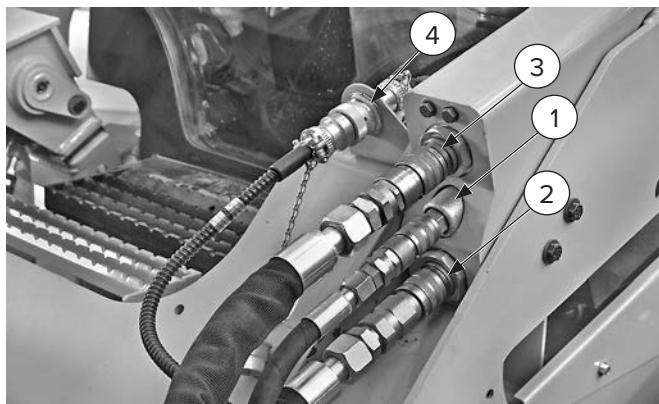

Figure 4
- Connect the hoses using the quick couplers (see "4.5 Connecting Quick Couplers" on page 17). It is essential to connect the case drain hose first (see Figure 4 on page 16, Item 1) and then connect the supply [Item 2] and return [Item 3] hoses.